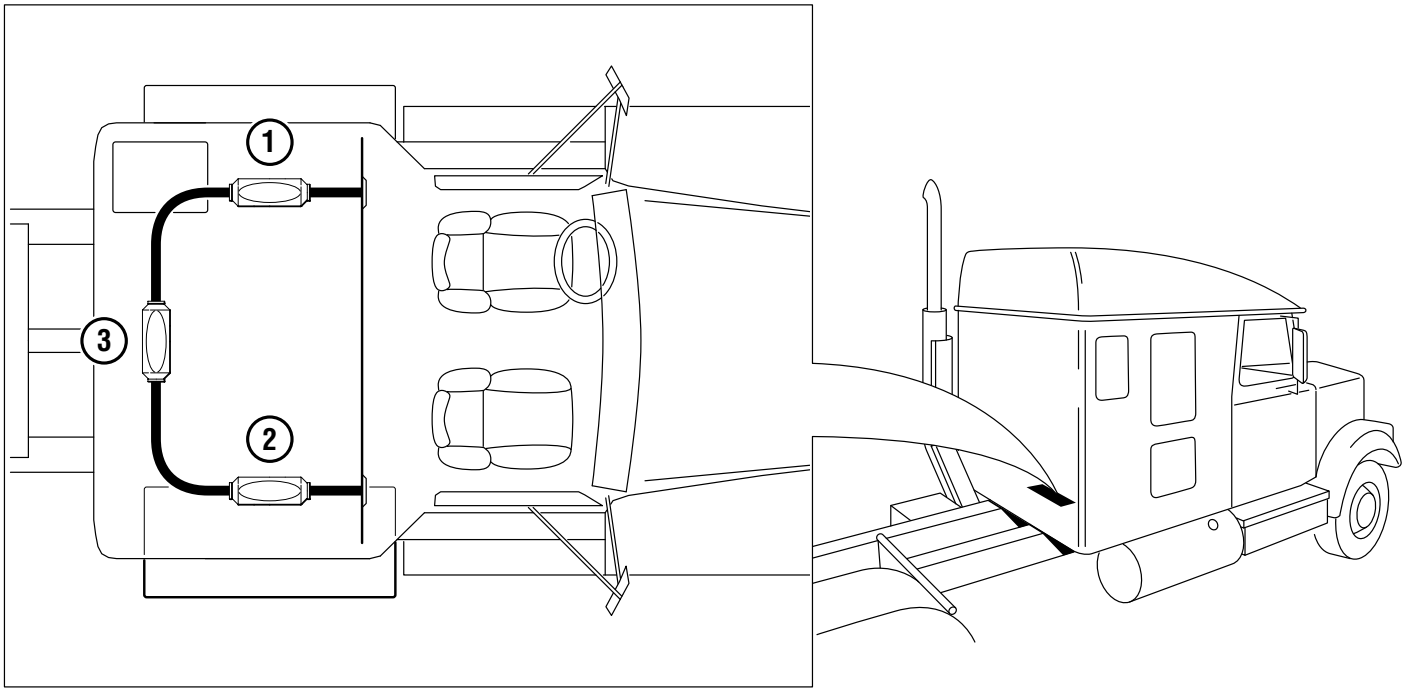

Figure 4. Recommended Mounting Locations for a Sleeper Cab.
- meets the requirements for location of ducts and air vents, refer to figure 4, 23 and 24 for information on air duct options